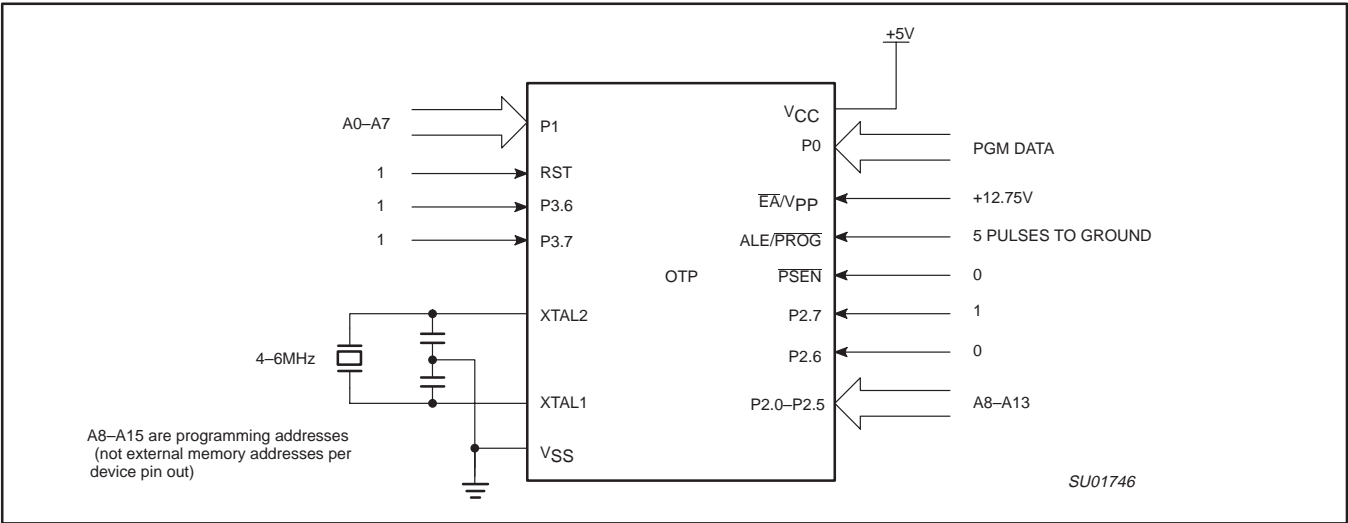
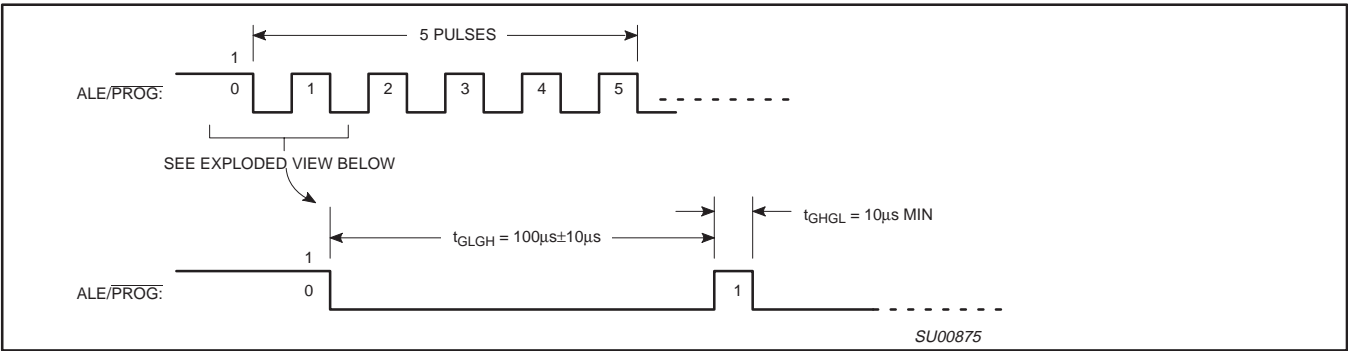
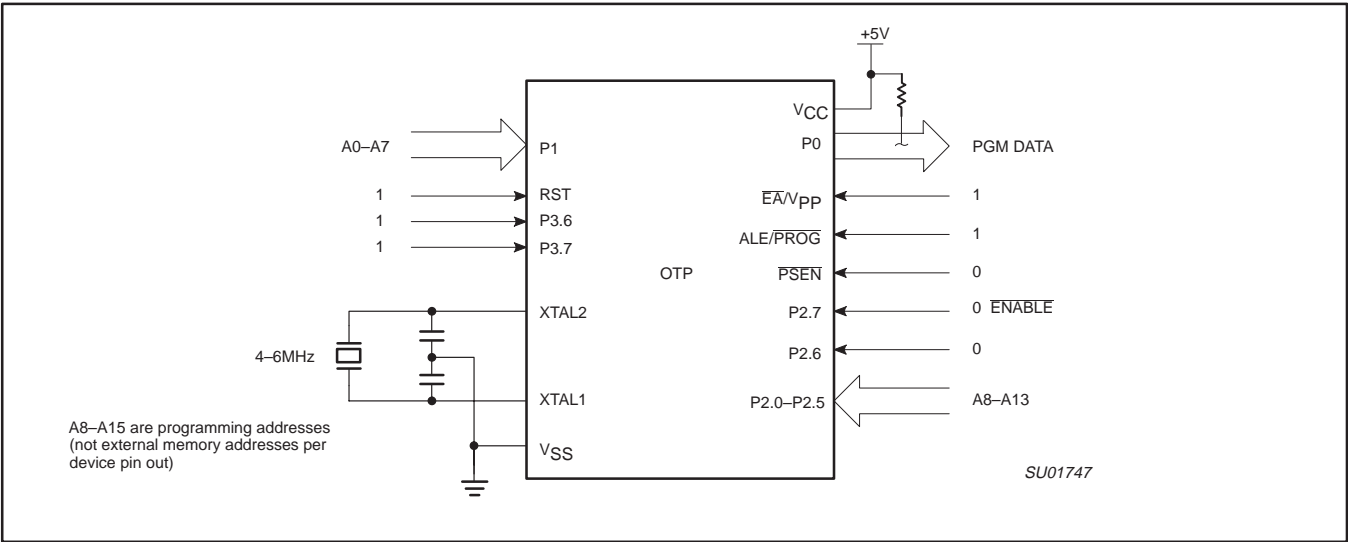

Figure 55. Programming Configuration
Figure 56. PROG Waveform
Figure 57. Program Verification
Table 15 shows the logic levels for reading the signature byte, and for programming the program memory, the encryption table, and the security bits. The circuit configuration and waveforms for quick-pulse programming are shown in Figures 55 and 56. Figure 57 shows the circuit configuration for normal program memory verification.
The setup for microcontroller quick-pulse programming is shown in Figure 55. Note that the device is running with a 4 to 6MHz oscillator. The reason the oscillator needs to be running is that the device is executing internal address and program data transfers.
The address of the EPROM location to be programmed is applied to ports 1 and 2, as shown in Figure 55. The code byte to be programmed into that location is applied to port 0. RST, \overline{PSEN} and pins of ports 2 and 3 specified in Table 15 are held at the 'Program Code Data' levels indicated in Table 15. The ALE/PROG is pulsed LOW 5 times as shown in Figure 56.
If security bits 2 and 3 have not been programmed, the on-chip program memory can be read out for program verification. The address of the program memory locations to be read is applied to ports 1 and 2 as shown in Figure 57. The other pins are held at the 'Verify Code Data' levels indicated in Table 15. The contents of the address location will be emitted on port 0. External pull-ups are required on port 0 for this operation.
* FOR PROGRAMMING CONFIGURATION SEE FIGURE 55.
FOR VERIFICATION CONDITIONS SEE FIGURE 57.